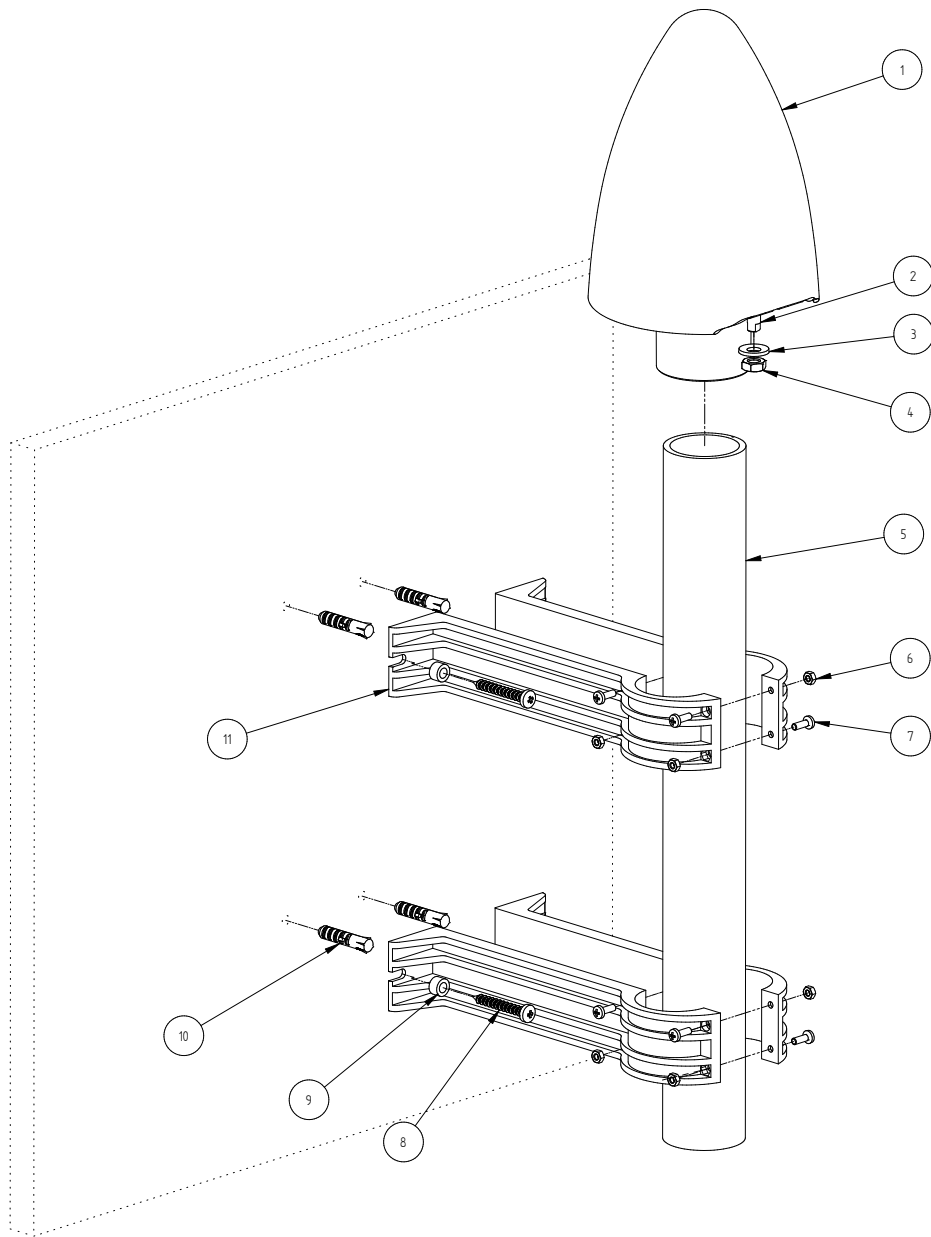

Figure 9.4: Mounting a GNMANtv2 Antenna onto a Mast
■ Fig. 9.4 illustrates how to assemble and mount a Meinberg GNMANtv2 Antenna on a mast by way of example.
1. Assemble the two pairs of pole clamp halves (Item 8 in  Fig. 9.4) with the mounting tube (Item 2 in  Fig. 9.4) in the clamps. Secure the tube inside each of the two clamps using four M4x12 Phillips screws and corresponding M4 hex nuts (Items 3 and 4 in  Fig. 9.4). To ensure that the clamp is secure as possible, the top and bottom screws of each clamp should be inserted from opposing directions as shown in  Fig. 9.4.
2. Place the threaded bolts (Item 5 in  Fig. 9.4) around the designated mast pole and feed the two prongs into the holes of the pole bracket (Item 9 in  Fig. 9.4). Secure each of the clamps to each of the pole brackets using two spacers and two M6 hex nuts (Item 7 in  Fig. 9.4) and tighten until the pole bracket and U-bolt are secure.
1. Assemble the two pairs of pole clamp halves (Item 8 in Fig. 9.4) with the mounting tube (Item 2 in Fig. 9.4) in the clamps. Secure the tube inside each of the two clamps using four M4x12 Phillips screws and corresponding M4 hex nuts (Items 3 and 4 in Fig. 9.4). To ensure that the clamp is secure as possible, the top and bottom screws of each clamp should be inserted from opposing directions as shown in Fig. 9.4.